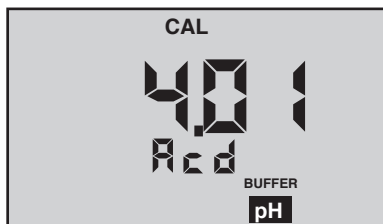

Figure 7
2. At this point the “**CAL**”, “**BUFFER**” and “**Acid**” or “**bAS**” annunciators will be displayed (see Figures 7 and 8).